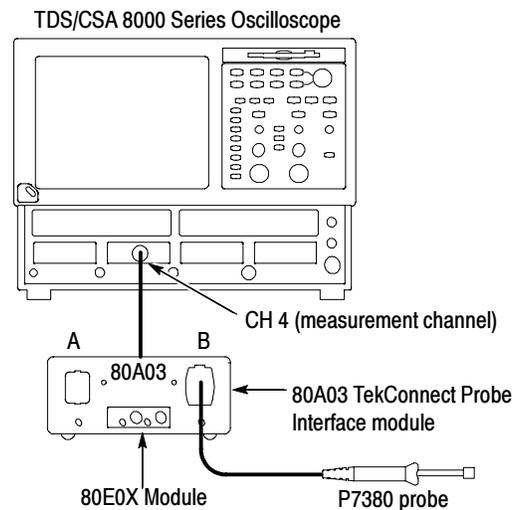

Figure 10: Preliminary test setup
1. Connect the 80A03 TekConnect probe interface to channels 3 and 4 of the TDS8000 oscilloscope. See Figure 10.